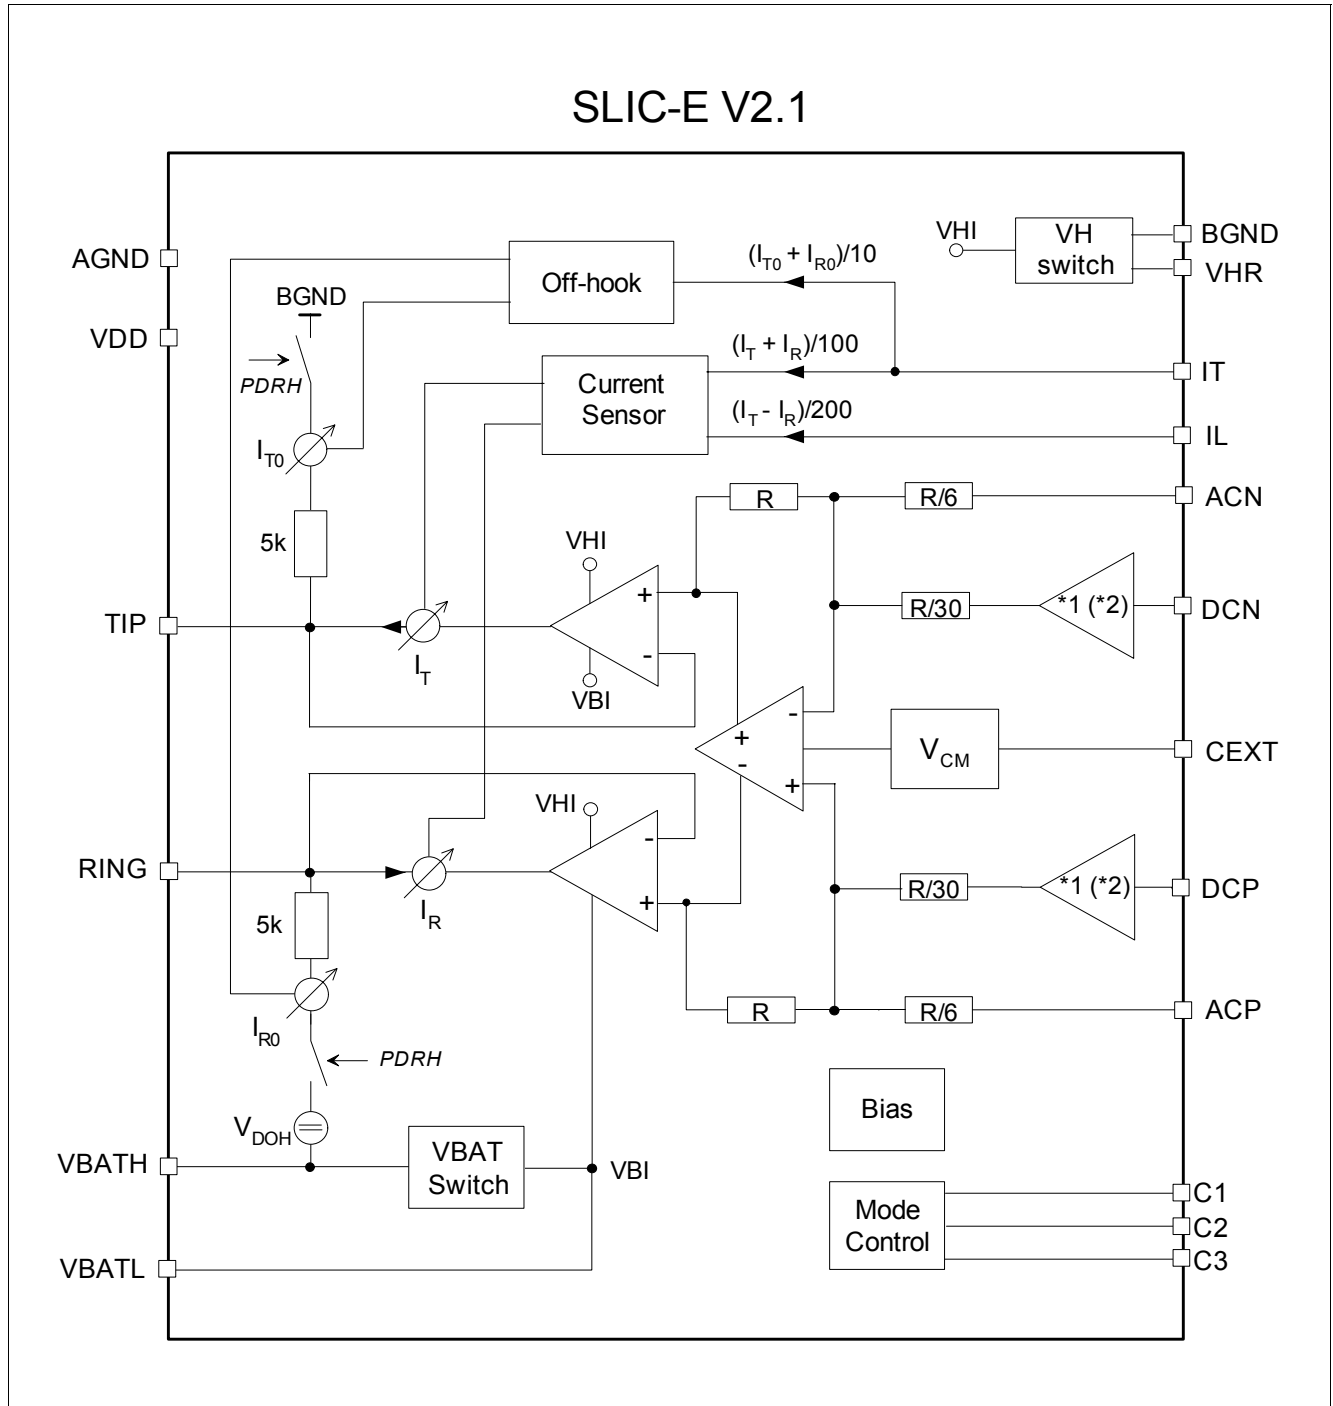

Figure 6 Block Diagram
A functional block diagram is shown in Figure 6.
Power consumption is reduced to a minimum by switching completely off all voice transmission functions. To allow off-hook detection, PDRH provides a connection of 5 kΩ each from TIP to BGND and RING to VBATH, respectively, while the output buffers show high impedance (see Figure 6). The current through these resistors is sensed, scaled by 1/5 and transferred to the IT pin for off-hook supervision.
3) Due to the changed battery switch concept (see Figure 6), the VBATL series diode must not be shared between different channels; one diode per channel is mandatory (also for applications with TSLIC).